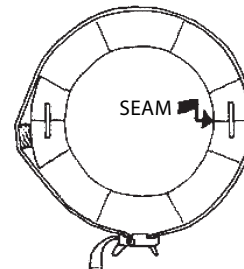

FIGURE 8-3
2. Cut blocks to use under band clamp opposite any areas that have expanded out of round (Fig. 8-3).